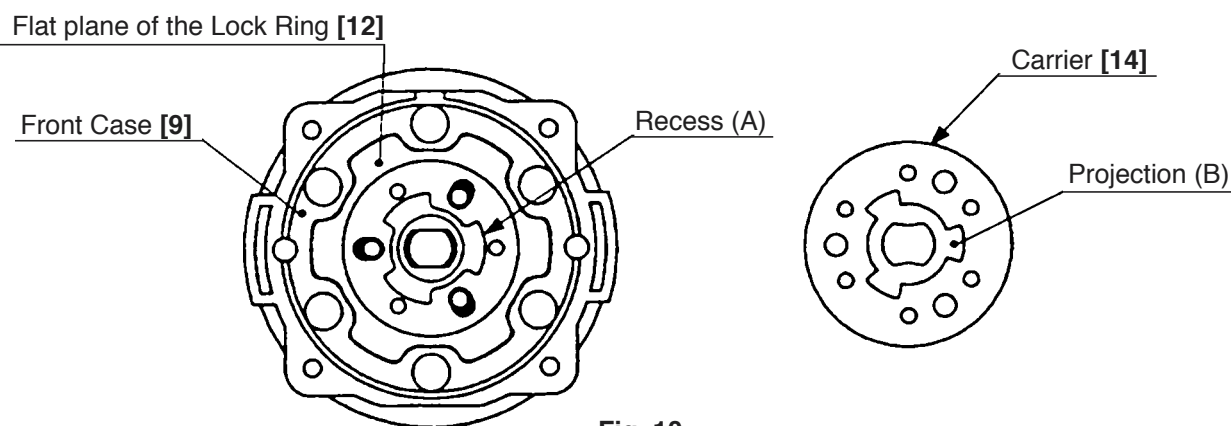

Fig. 10
Assemble so that recess (A) on the Lock Ring [12] is aligned with projection (B) on the Carrier [14]. (Be careful of the direction.) Then make sure that the flat plane of the spindle faces the flat plane of the Carrier [14]. If assembled in wrong direction, the flat plane of the spindle may be stopped at the position about 2 mm lower than the flat plane of the Carrier [14]. (See Figs. 10 and 11.)